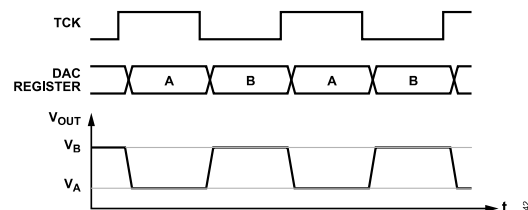

Figure 48. TCK Timing
When the TCK signal is high the DAC outputs a voltage (V_A) corresponding to Input Register A, and when TCK is low, the DAC outputs a voltage (V_B) corresponding to Input Register B (see Figure 48). The toggle function can be disabled by writing 0x0000 to the toggle/dither enable register (Command 11).
7. Apply the toggle clock signal to the TGP2 pin. The DAC output voltage changes on the rising and falling edges of the toggle clock signal as shown in Figure 48.